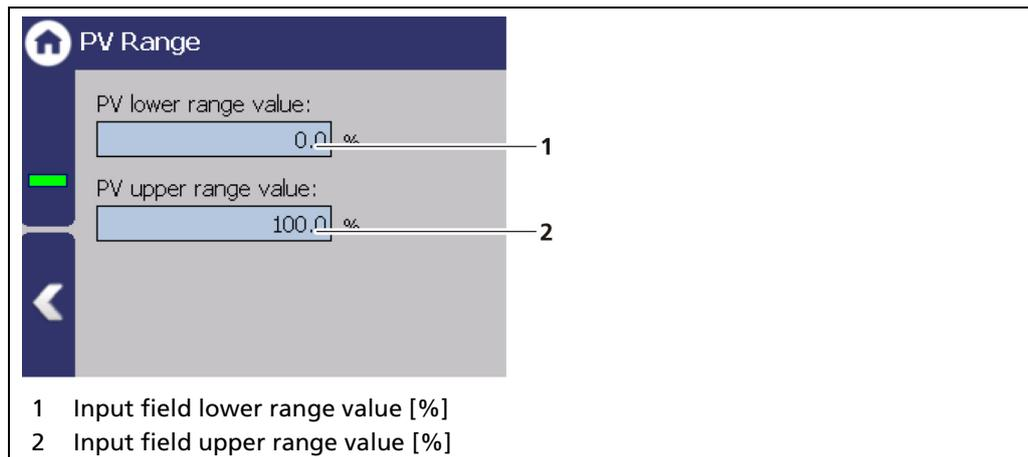

Fig. 105 Signal Condition (PV Range)
1. Click on the input field (Fig. 105, item 1) to enter, in percent [%], the level which should correspond to an output current of e.g. 4 mA.
3. Click on the input field (Fig. 105, item 2) to enter, in percent [%], the level which should correspond to an output current of 20 mA.